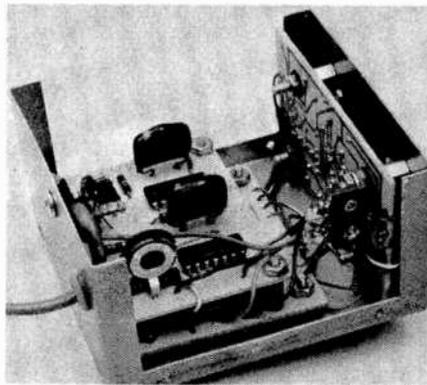

Fig. 3. This photo shows interior of the display chassis. Cable at left goes to power supply unit.
**Construction.** The circuit is assembled on four small pc boards as shown in Fig. 2. Other than the optoelectronic board and the power supply components, two circuit boards and the display board are mounted in a small metal enclosure as shown in Fig. 3. A window for the display must be cut in the front panel with a piece of plastic cemented over the window. The two pc boards are mounted on spacers with the strobe-reset board on top (to provide access to *R3*).